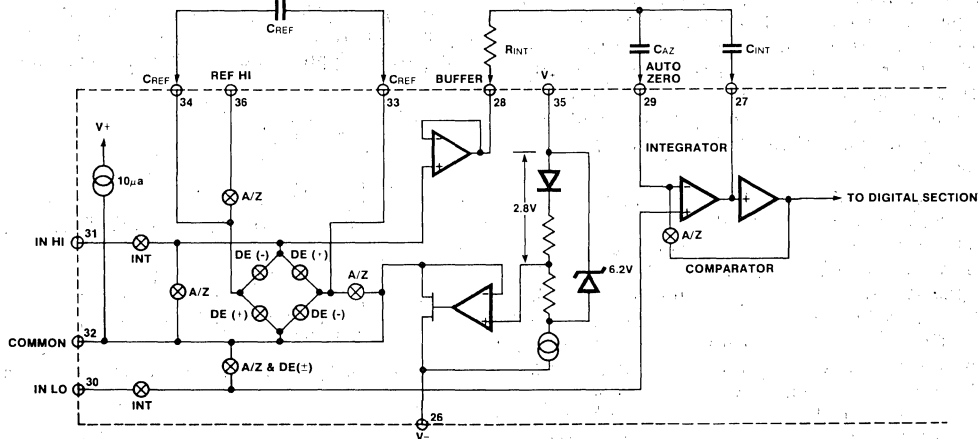

Figure 3: Analog Section of 7116/7117
Figure 3 shows the Block Diagram of the Analog Section for the ICL7116 and 7117. Each measurement cycle is divided into three phases. They are (1) auto-zero (A-Z), (2) signal integrate (INT) and (3) deintegrate (DE).